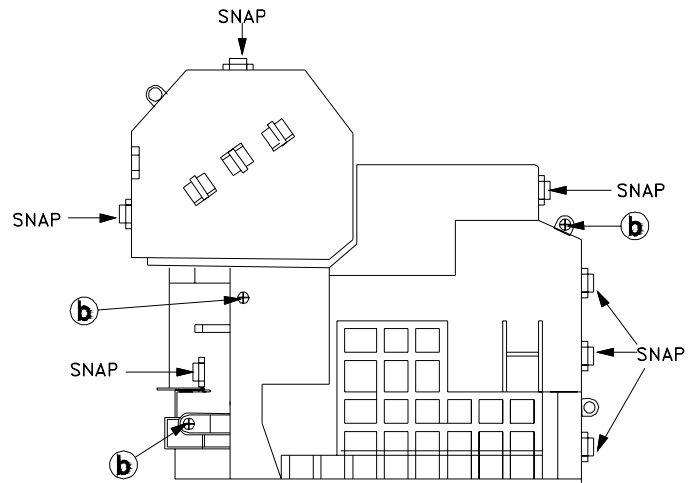

Figure 2: Duct Assembly (Top View)
- 3) Remove 3 screws (b) from the top of the upper duct and release the 7 snaps shown in *Figure 2*.